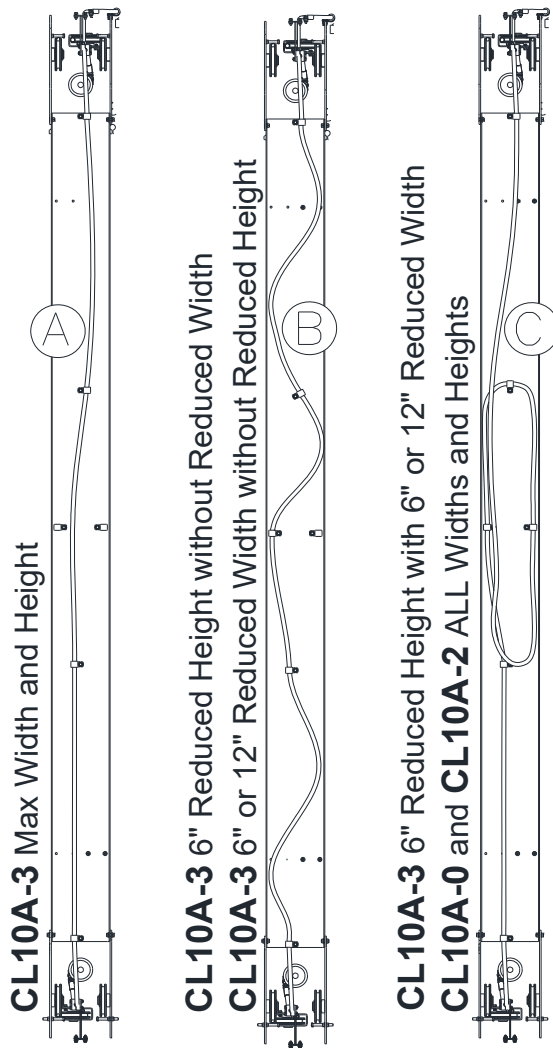

**Fig. 13a – Hose Routing,
- 28) Install the hose support tabs to both idler and power columns using 1/4"-20NC x 3/4" lg. hex flange bolt and nut, see **Fig. 13a** and **Fig. 13b**.
- 29) Route the idler side hose through the idler side column as shown in **Fig. 13a**, taking care to avoid the synchronizing cables and hydraulic cylinder path. Uncoil the overhead hose and attach it to the idler side hose. Remove slack and tighten all 3 clamps. Route hose across overhead avoiding the synchronizing cables and down through the power side column extension as seen in **Fig. 13b**. Do Not Tighten clamps at this time.